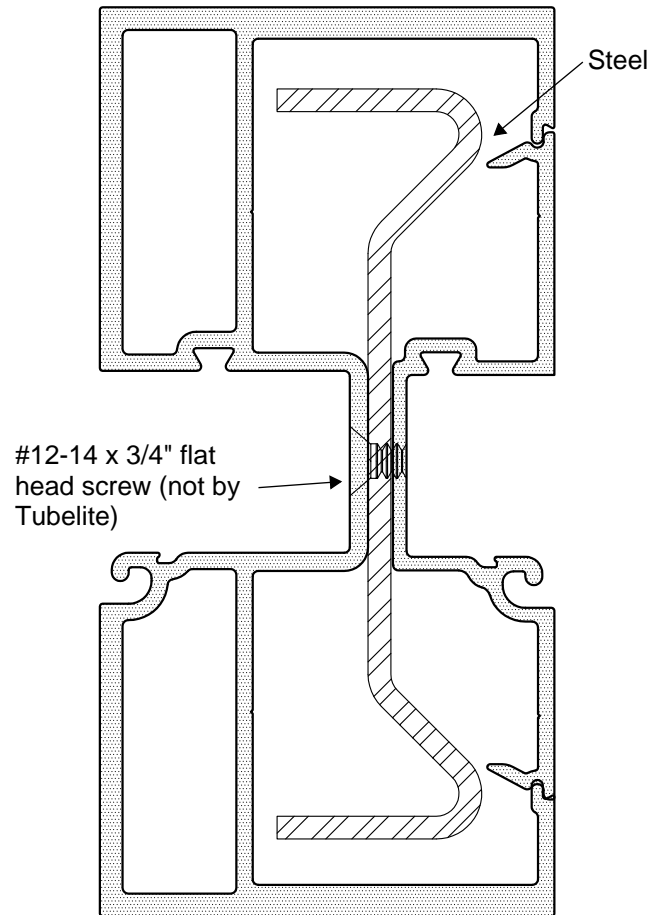

Figure 9: Install steel reinforcement if necessary.
- Insert steel into the mullion as shown in Figure 9. Align and center the steel with mullion, then drill .213" diameter holes through the mullion and steel at 12" O.C.